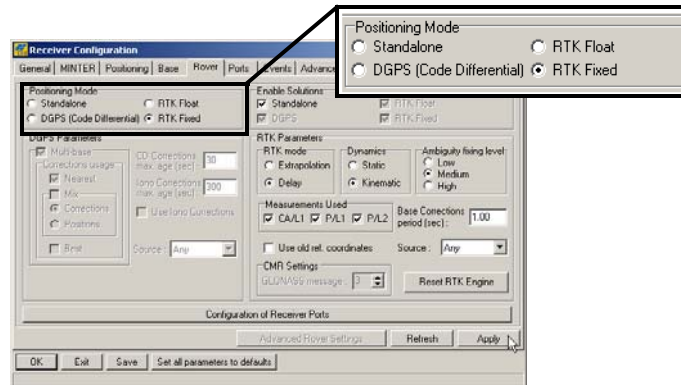

Figure 3-11. Rover Configuration
- Click the *Rover* tab and set the desired *Positioning Mode* (Figure 3-11).